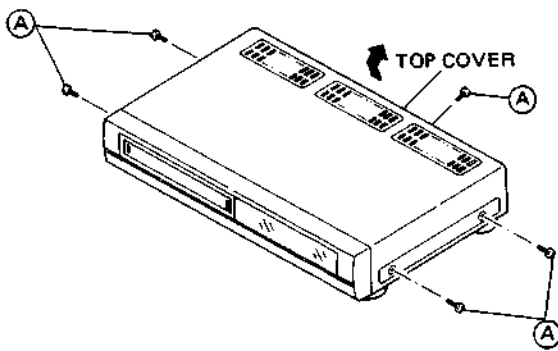

Fig. 1-1-1 Top cover
1. Refer to Fig. 1-1-1 and set for the EJECT (Stop) mode and disconnect VCR from AC power.
2. Take out 5 screws (A). To remove the top cover, slide in direction of arrow and lift away.